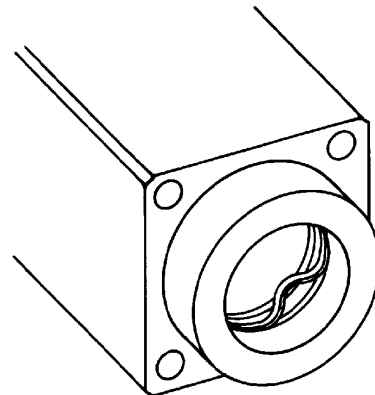
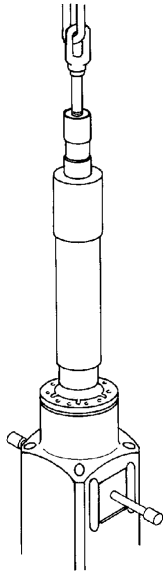

Fig. 49 - Fitting the lip seals
Fig. 50- Piston assembly
- b) Assemble two lip seals (pos. 204) into the internal seats of the cylinder (pos. 203), making sure that they are assembled with the lips facing away from one another. The lip seals (pos. 204) must be mounted on the internal seats of the cylinder (fig. 49);
- c) Place the cylinder (pos. 203) complete with seals on the chuck housing (pos. 101);
- d) Slide the piston into the cylinder using the anchoring screw (pos. 507) (fig. 50);